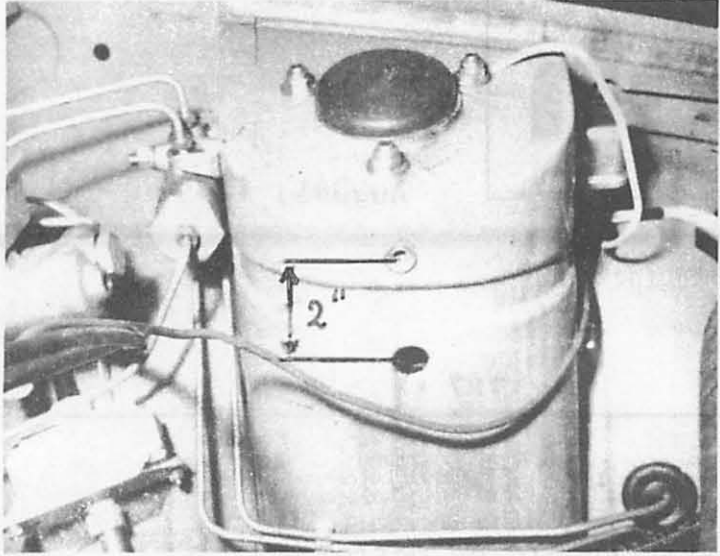

FIG. 1
1. Drill a 1/2" hole on the inner face of the suspension turret to dimensions shown in Fig. 1, and install the TUCKER EYELET by using a 1/4" U.N.F. by 1 1/4" long bolt and plain washer (not supplied), and inserting a small open end wrench between the face of the eyelet and the plain washer. Tighten the bolt, this will collapse and anchor the Tucker Eyelet in place.